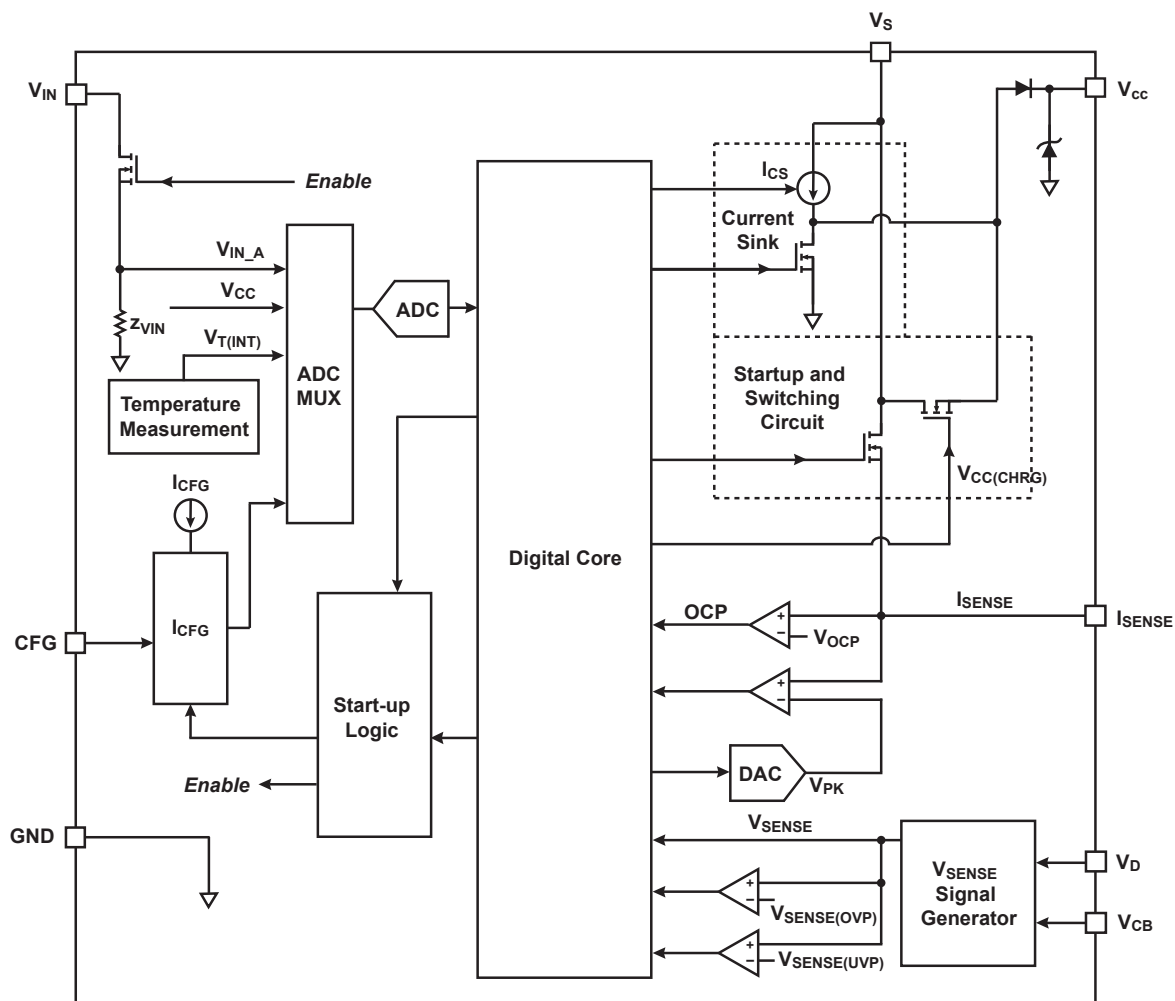
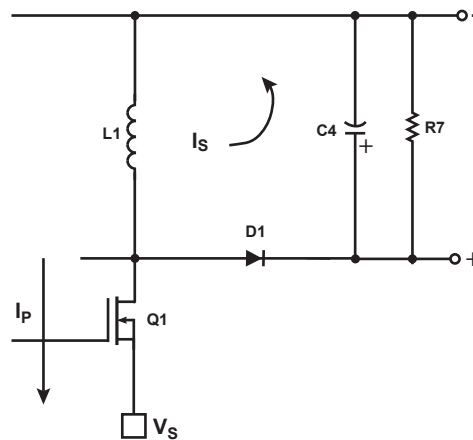
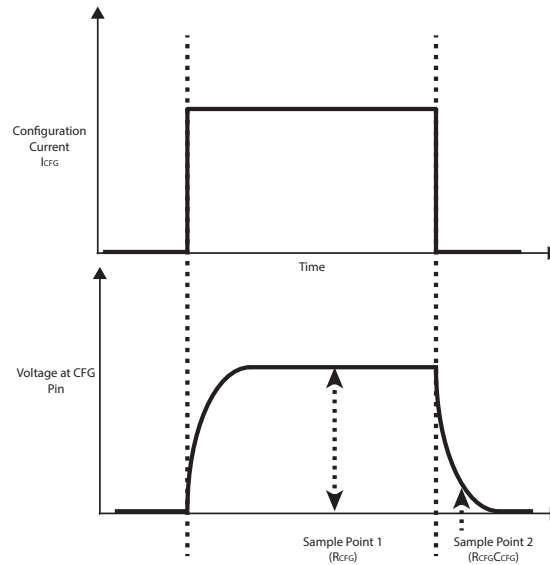

Figure 8.1 : iW3681-20 Functional Block Diagram
Figure 9.5 : Inductor Current Flow in Switching Mode
Figure 9.9 : Configuration Pin (CFG) Timing Waveform
- Note 2. Refer to the voltage level at the V_{IN_A} point in Figure 8.1. The typical impedance between the V_{IN} pin and V_{IN_A} point is 500Ω .
- Note 4. Refer to Z_{VIN} in Figure 8.1.
The Digital Core (shown in Figure 8.1) analyzes the rectified AC waveform and determines whether a dimmer is connected on the line. There are three dimmer modes in the iW3681-20: no-dimmer, leading-edge dimmer, and trailing-edge dimmer. Based on the detected dimmer type and input voltage waveform, the iW3681-20 determines whether to operate in current sink mode or switching mode. During switching mode, the output current regulation is determined by the inductor peak current (I_{SENSE} pin), the magnetic flux status of the inductor (V_D and V_{CB} pins), and the input voltage waveform (V_{IN} pin) (refer to section 9.4 for more information).
If a dimmer (either leading-edge or trailing-edge) is detected on the AC line, the iW3681-20 operates in dimmer mode. In dimmer mode, MOSFET (Q1 in Figure 11.1) operates in both switching mode and current sink mode based on the timing control of iW3681-20. During the switching mode, the output current is adjusted based on the detected phase conduction angle. During current sink mode, the switching circuit is disabled and the current sink circuit is enabled. The main MOSFET is forced to operate in linear mode, where the current through MOSFET is regulated by the Digital Core. As shown in Figure 8.1, V_{CC} can be charged during both current sink mode and switching mode.
In iW3681-20, output current regulation is implemented through peak current control in switching mode. Figure 9.5 and 9.6 show the basic principle of this peak current regulation during the switching mode. During T_{ON} , the main switch Q1 (shown in Figure 9.5) is turned on and the current, I_P , flows through the primary side of the buck-boost converter and Q1. I_P ramps up linearly and causes energy to build up in the power inductor L1 (shown in Figure 9.5). The iW3681-20 continuously monitors I_{SENSE} pin voltage, when it reaches V_{PK} (shown in Figure 8.1), it turns off the switching circuit. At this time, I_P reaches peak current regulation level I_{PK} (shown in Figure 9.5 and 9.6). After Q1 is turned off, the current in L1 ramps down linearly through D1 (shown in Figure 9.5), until the energy stored in the power inductor is discharged. During this period, the current through L1 flows to the secondary side of the buck-boost/flyback converter, which is called I_S .
where I_{PK} is the peak value of the primary winding current. N_{TR} is the primary-secondary turns ratio. For single winding inductor topology as shown in Figure 9.5, $N_{TR} = 1$. T_R is the secondary-side current ramp-down time, and T_P is the entire switching period.
At start-up, a current source in the iW3681-20 drives the configuration current I_{CFG} (100 μ A) into the CFG pin (shown in Figure 8.1). The iW3681-20 reads the pin voltage to determine the configuration option. The CFG pin configuration selects the temperature de-rating start point (OTP), V_{PK} high limit value at dimmer mode, and V_{IN} rising edge V_{PK} clamp value at no dimmer mode. The iW3681-20 can use either a single CFG resistor to ground for programming the configuration function, or it can use an RC configuration method to achieve more configuration flexibility. The CFG pin monitors two voltage sample points as shown on figure 9.9. The first point is set by the resistor value from CFG to ground and the second is set by the RC time constant if a capacitor is placed in parallel with the CFG resistor. Based on these two sample points, the iW3681-20 sets the functionality shown in table 9.1. The iW3681-20 can determine whether the capacitor is used in parallel with the resistor or not and program the configuration function accordingly.